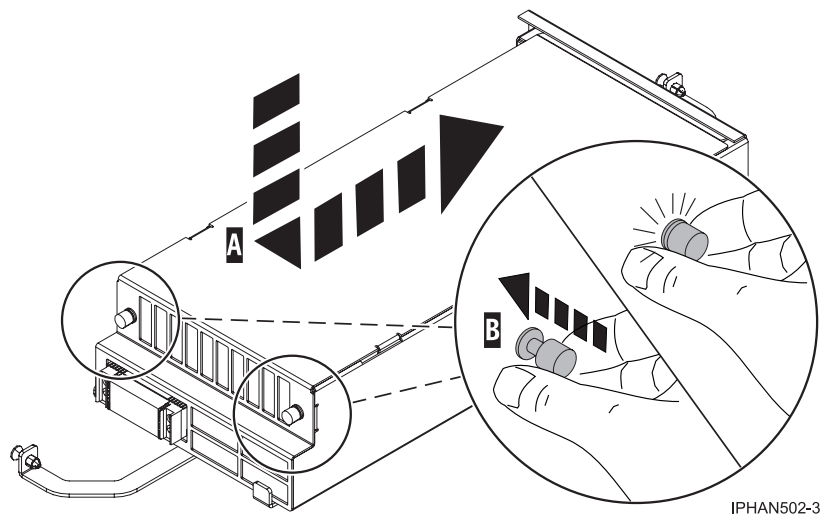

Figure 13. Replacing the system processor assembly cover replacement
- Place the cover (A) on the processor card assembly, and then lock the two retention knobs (B), as shown in Figure 13.